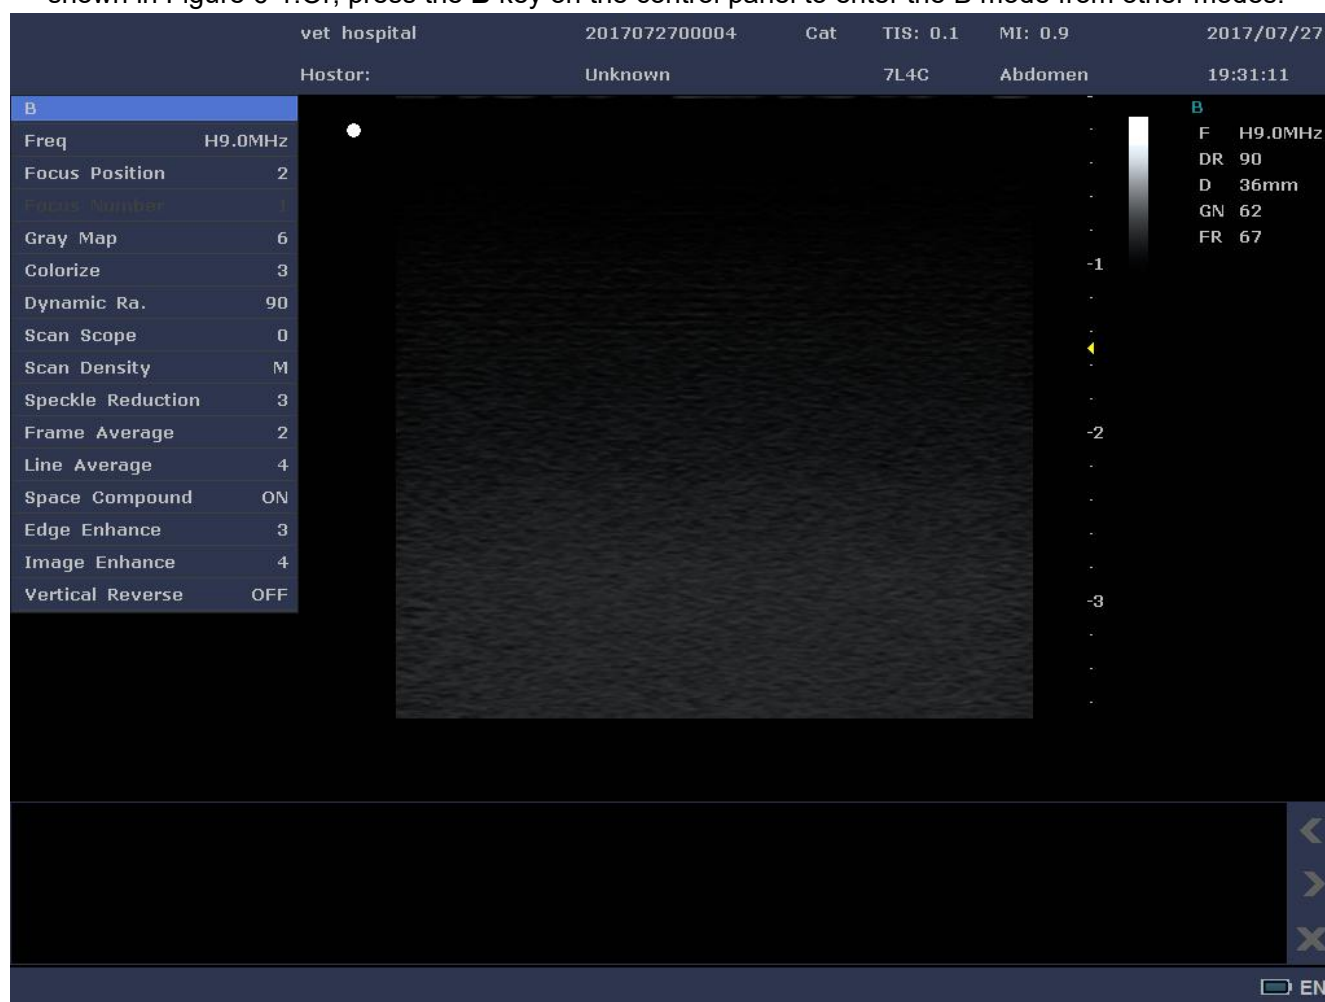

Figure 6-1 B Mode Image
1. Select the appropriate probe and exam type, and the system automatically enters the B mode, as shown in Figure 6-1. Or, press the **B** key on the control panel to enter the B mode from other modes.